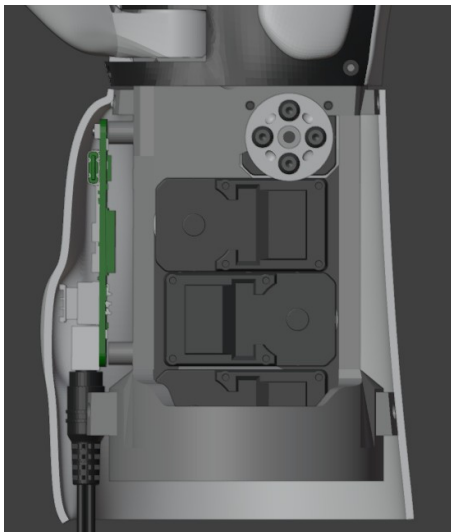

Figure 5.76: Skeleton - Front lower cover area
4. Position the pins on one side of the front cover onto the interlocking holes on the corresponding side of the skeleton, snap them in, then rotating the cover proceed to snap the pins on the other side. See figures 5.76 and 5.77 .